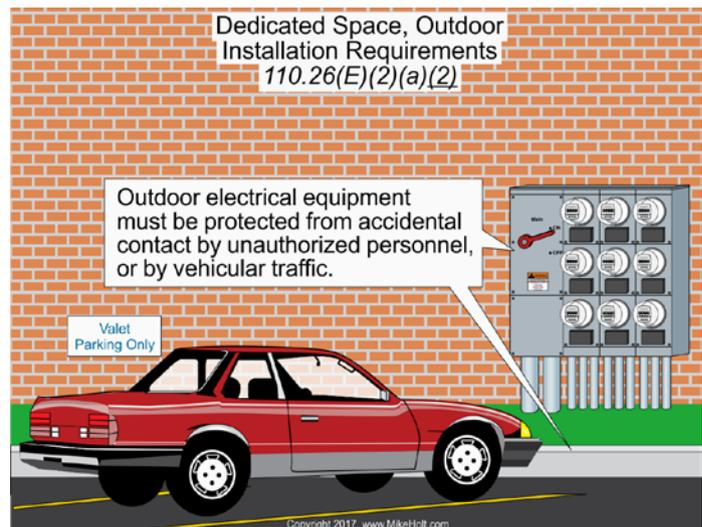

Figure 110-49
- (1) Installed in identified enclosures
- (2) Protected from accidental contact by unauthorized personnel, or by vehicular traffic Figure 110-49
- (3) Protected by accidental spillage or leakage from piping systems